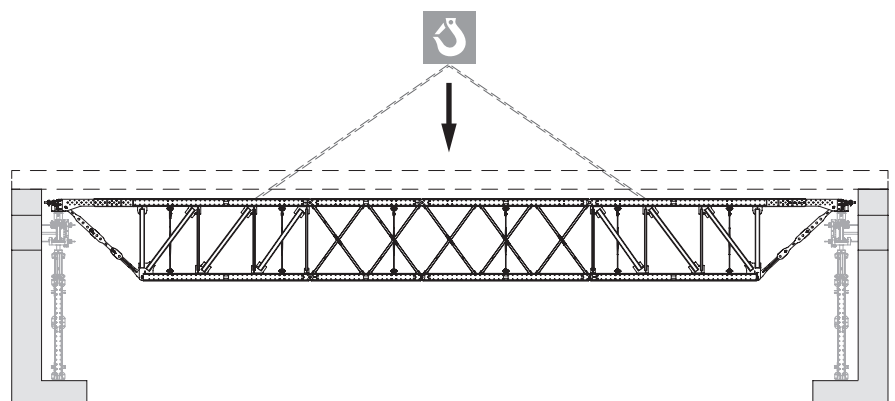

Fig. F1.02
2. Installation of heavy-duty truss girder on VST Heavy-Duty Shoring Tower. (Fig. F1.02)